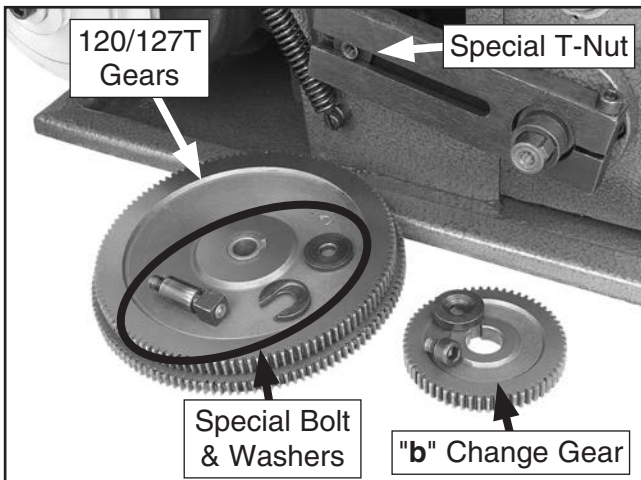

Figure 51. 120/127T Gears and "b" change gear removed.
7. Remove the special bolt and washers that secure the 120/127T gear, then remove the gears from the gear shaft (see **Figure 51**).
11. Remove the cap screw and flat washer that secure the "b" gear, then remove the gear from the gear shaft (see **Figure 51**).